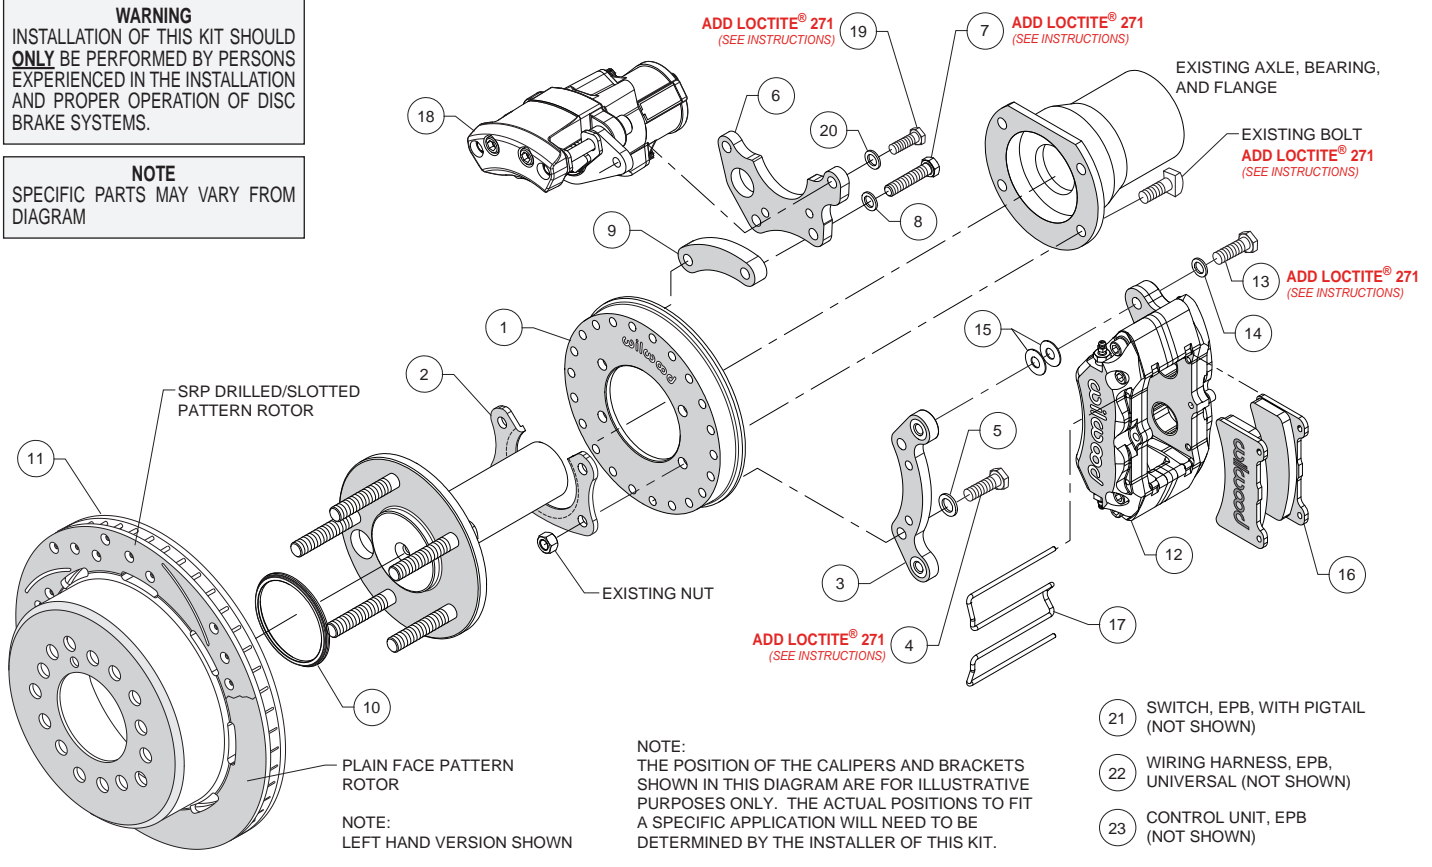
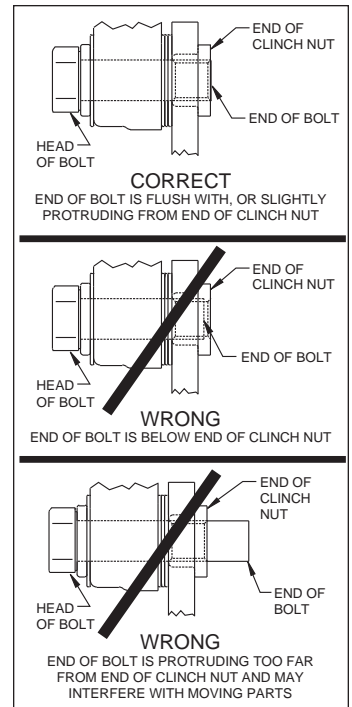

Figure 1. Typical Installation Configuration
Figure 5. Clinch Nut Engagement Diagram
(numbers in parenthesis refer to the parts list, and Figure 1 on the preceding pages): **CAUTION:** All mounting bolts must fully engage clinch nuts. Be sure to check that all bolts are either flush or protruding through flanged side of clinch nut after shimming, Figure 5.
- Orient the backing plate (1) as shown in Figure 1 and Photo 1, and slide it onto the axle housing flange. Ensure the backing plate fits flush against the axle housing flange. Reinstall the axle into the axle housing.
- Install the bearing retainer (2) with the opening pointing upward and the lip facing inward (toward the bearing), as shown in Figures 1 and 4, and Photo 2. Secure retainer and backing plate to the axle housing flange using the Original Equipment Manufacturer (OEM) bolts and nuts, Figure 1 and Photo 3. Apply red *Loctite*® 271 to the OEM bolt threads and torque to OEM specifications.
- Start by determining the best location for the service caliper (12). This caliper is usually mounted in the 3:00 or 9:00 o'clock position, but may be rotated up or down approximately 45 degrees and still allow for proper bleeding, Photo 4. Orient the service caliper bracket (3) as shown in Figure 1 and Photo 5, and install to the backing plate (1) in the desired location using bolts (4) and washers (5). Temporarily tighten bolts. Next, mount the service caliper to the bracket using bolts (13) and washers (14). Temporarily tighten bolts. Check that the caliper (including inlet fitting and hose) has sufficient clearance to all surrounding components through the full suspension travel. Relocate the caliper/bracket on the backing plate as needed to ensure proper clearance is achieved.
- Determine the best location for the EPB caliper (18). **NOTE:** *The EPB caliper motor extends farther inboard than the service caliper and therefore needs additional consideration when determining a mounting location with sufficient clearance.* In the example application shown in Photo 6, the EPB caliper has sufficient inboard clearance to the leaf spring. However, if the EPB caliper were mounted closer to the 12:00 o'clock position, the inner body of the vehicle would hit the caliper during full compression of the suspension.
•Orient the EPB caliper bracket (6) as shown in Figure 1 and Photo 7, and install to the backing plate (1) in the desired location using bolts (7), washers (8), and spacer (9). Temporarily tighten bolts. **NOTE:** The EPB bracket is reversible. In one direction the bracket will position the EPB caliper closer to the service caliper, and vice versa if reversing the bracket. Next, mount the EPB caliper (18) to the bracket using bolts (19) and washers (20). Temporarily tighten bolts. **NOTE:** EPB calipers are Left and Right handed, however they can be used on either side of the vehicle to best suit your specific application. Check that the EPB caliper (including wiring harness connector) has sufficient clearance to all surrounding components through the full suspension travel. Relocate the EPB caliper/bracket on the backing plate as needed to ensure proper clearance is achieved.
•Once the caliper positions have been determined, remove both the service (12) and EPB (18) calipers, leaving both brackets in place on the backing plate. For both brackets, remove the bolts one at a time, apply red *Loctite*® 271 to the threads, and torque to 35 ft-lb.
•Slide the rotor registration adapter (10) onto the register on the axle flange with the smaller O.D. facing toward the rotor/hat (11), Photo 8. Align the correct hole pattern in the rotor/hat with the stud pattern on the axle flange and slide into place, Figure 1. **NOTE:** The rotor/hat must fit flush against the axle flange or excessive rotor run out may result. Install three lug nuts (finger tight) to keep the rotor/hat assembly in place while continuing with the installation. **NOTE:** Some OEM and after market axles come with stud sizes larger than 0.50" diameter. Verify stud size and have a qualified machine shop drill the bolt circle of the hat/rotor to the correct stud size, if necessary.
•**NOTE:** Please reference the caution statement at the beginning of the assembly instructions. Remount the service caliper (12) onto the caliper mounting bracket (3) using bolts (13) and washers (14), as shown in Figure 1. Initially place two .035" thick shims (15) on each bolt between the caliper and the bracket, Photo 9. Temporarily tighten the mounting bolts and view the rotor (11) through the top opening of the caliper. The rotor should be centered in the caliper, Photo 10. If not, adjust by adding or subtracting shims (15) between the bracket (3) and the caliper (12). Always use the same amount of shims on each of the two mounting bolts. **NOTE:** The end of each bolt must be flush with or slightly protruding from the head of the clinch nut, as shown in Figure 5. If necessary place spare shims (15) between washer (14) and caliper (12) mounting ear to achieve the proper clinch nut engagement. Once the caliper alignment and clinch nut engagement are correct, remove the bolts (13) one at a time, apply red *Loctite*® 271 to bolt threads, and torque to 40 ft-lb.
- Mount the EPB caliper (18) onto the caliper mounting bracket (6) using bolts (19) and washers (20), Figure 1. Apply red *Loctite*® 271 to bolt threads, and torque to 30 ft-lb.
- NOTE:** *The service caliper (12) in this brake kit utilizes a 1/8-27 NPT pipe thread inlet. OEM rubber brake hoses generally cannot be adapted to Wilwood calipers. The preferred method is to use steel adapter fittings at the caliper, either straight, 45 or 90 degree and enough steel braided line to allow for full suspension travel. Carefully route hoses to prevent contact with moving suspension, brake or wheel components. NOTE: Wilwood hose kits are designed for use in many different vehicle applications and it is the installer's responsibility to properly route and ensure adequate clearance and retention for brake hose components. Wilwood offers universal brake flex line hose kits, domestic (3/8-24 IF) chassis fittings, order:*